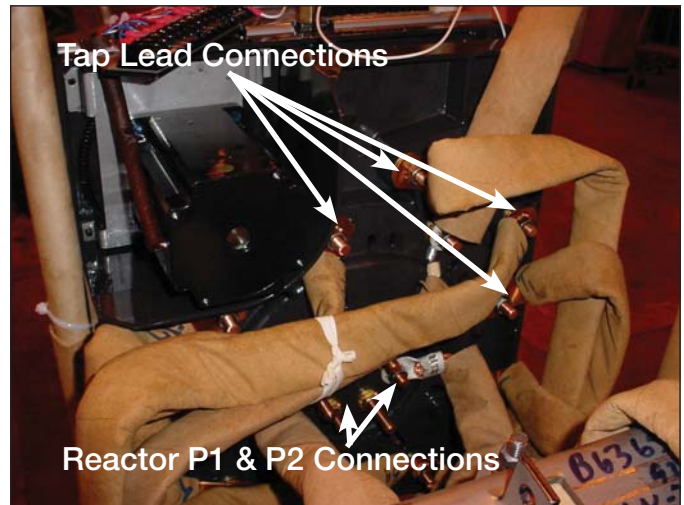

Figure 7.
- Use a deep well 9/16 inch socket with a ratchet or a 9/16 inch wrench to loosen and remove all lead connections from the back of the tap changer contact board. See Figure 7.